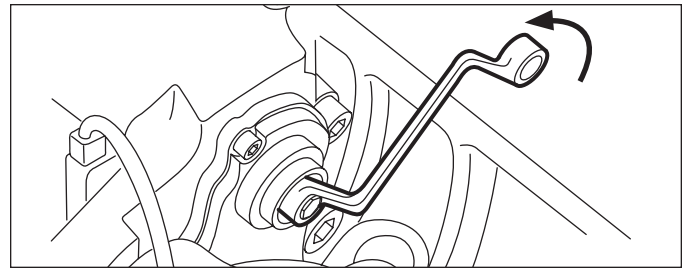

Figure 20 – Backing-Off (Increasing) the Running Clearance
3.2.2 Using a 10 mm six-point box-end wrench, turn the Shear Adapter (61) **counterclockwise** and listen for the sound of 3 clicks as the mechanism backs-off (increases) the running clearance. **NOTE:** Do not use an open-ended wrench as this may damage the adapter. See Figure 20.